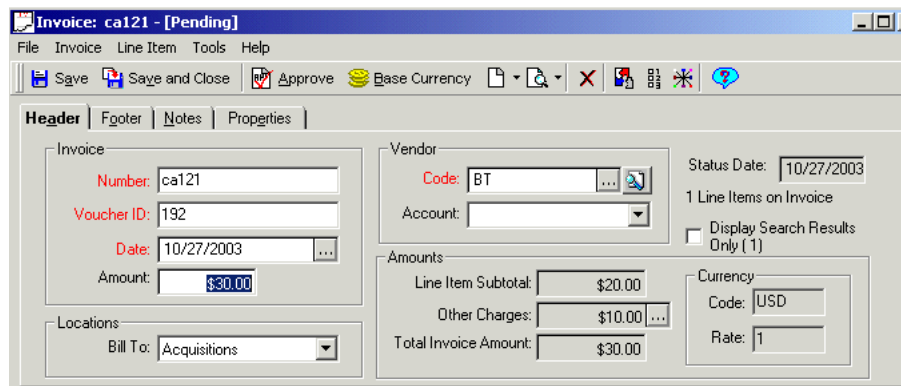

Figure 12-26. Pending invoice
1. From an open pending invoice, verify that the amount entered in the **Amounts** field matches the sum of the line item costs and other charges in the **Total Invoice Amount** field (see Figure 12-26).